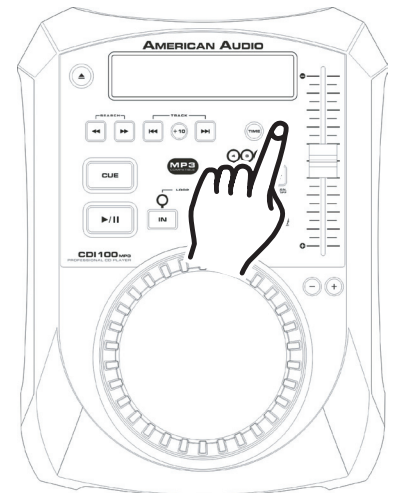

Figure 21
Adjusting the PITCH SLIDER'S RANGE (4): You may change the PITCH SLIDER'S (4) operating range at any time. To change the operating range be sure the pitch function is turned on, see figure 21. The pitch percentage can be changed between +/-4%, +/-8%, and +/-16%. 4% will allow the least amount of pitch manipulation and 16% will allow the most amount of pitch manipulation. To adjust the different ranges, press the PITCH ON/OFF BUTTON (5) and tap on the PITCH RANGE BUTTON (6) until your desired value is reached, see figure 34.